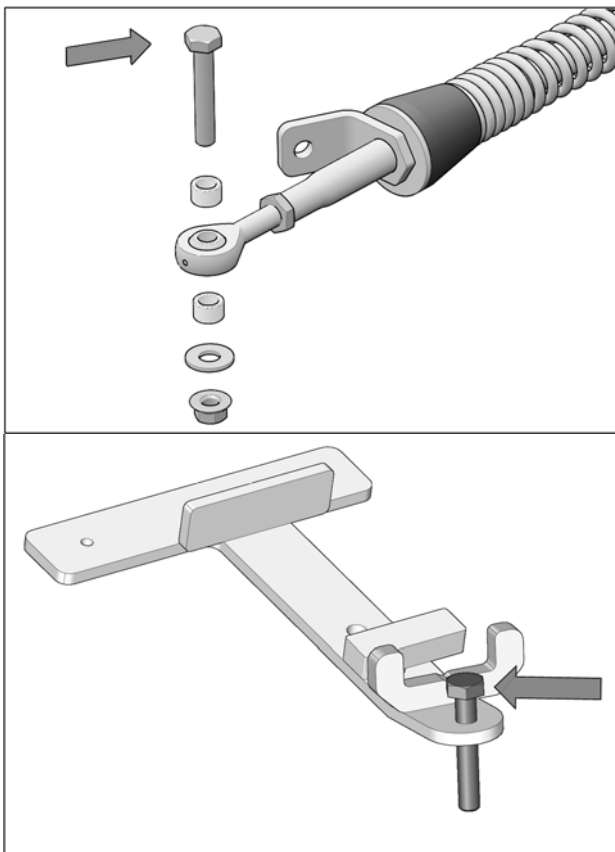

Fig. 13
4. Remove bolt, washer and bushings from front stabilizing rod end and insert bolt in front anchor bracket as shown in Fig. 13